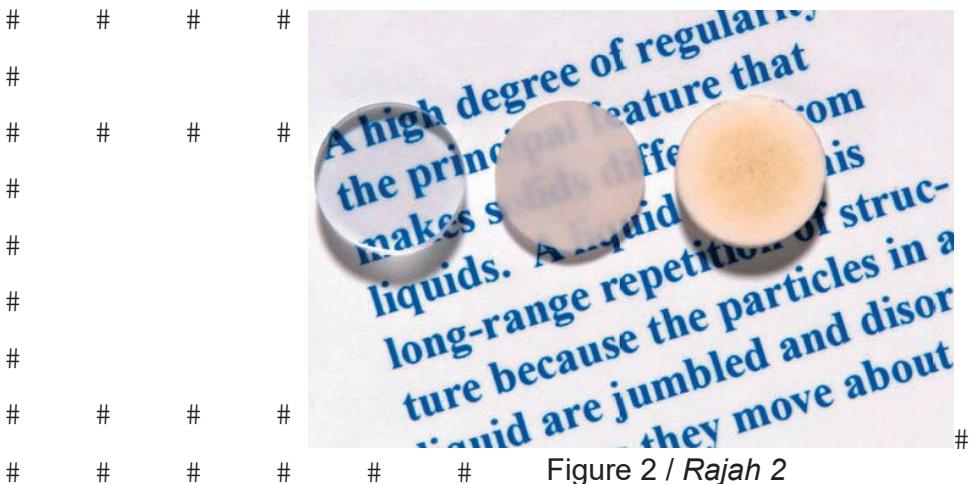

Figure 2 / Rajah 2
- (iii). Use all the FOUR (4) components in Question a (ii) above to explain Figure 2.